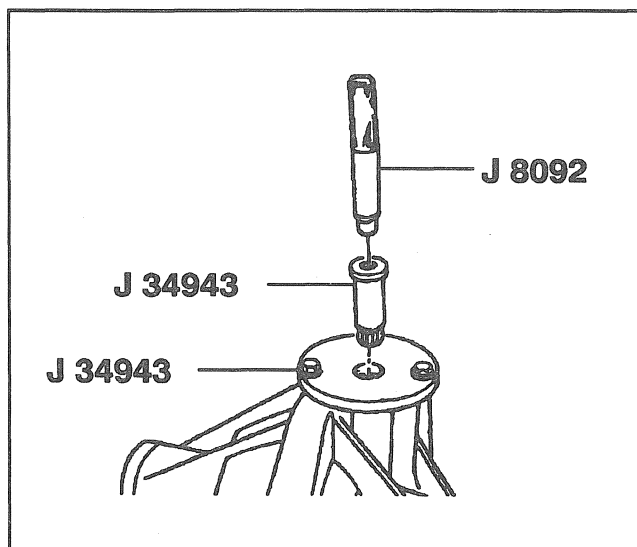
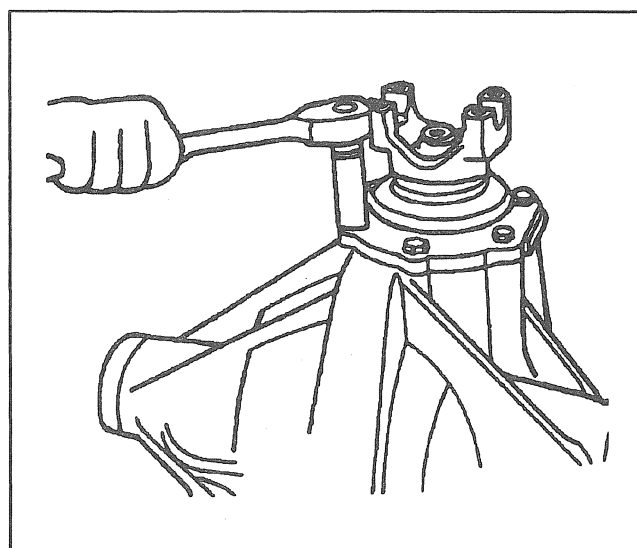

Figure 12—Installing the Pilot Bearing
Figure 13—Installing the Pinion Cage
Install or Connect (Figures 12 and 13)
1. Pinion pilot bearing (15) using J 34943 and J 8092 (Figure 12).
- B. Place the bearing (15) onto the guide.
2. Measure the pinion bearing shims (11). If a new ring and pinion is installed, the pinion bearing shim pack must be adjusted.
3. Pinion bearing shims (11) to the pinion cage.
4. Pinion cage (10) to the axle housing (Figure 13).
5. Cage bolts (7).